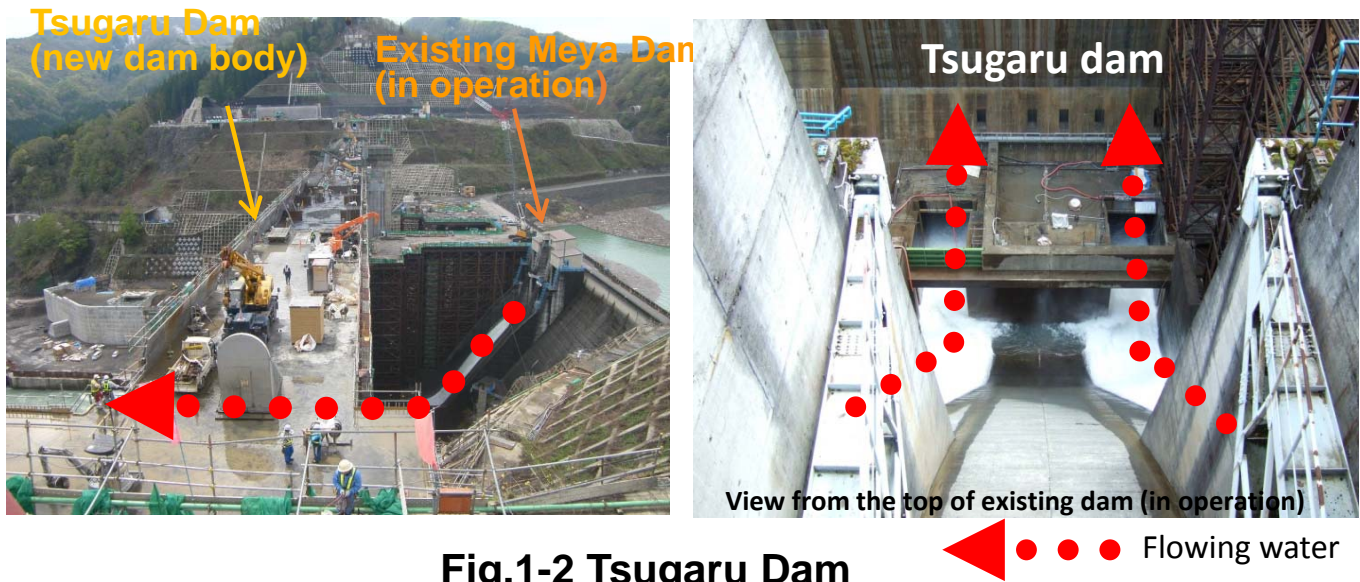

Fig.1-2 Tsugaru Dam
- Tsugaru Dam in Aomori Pref. (Fig.1-2)